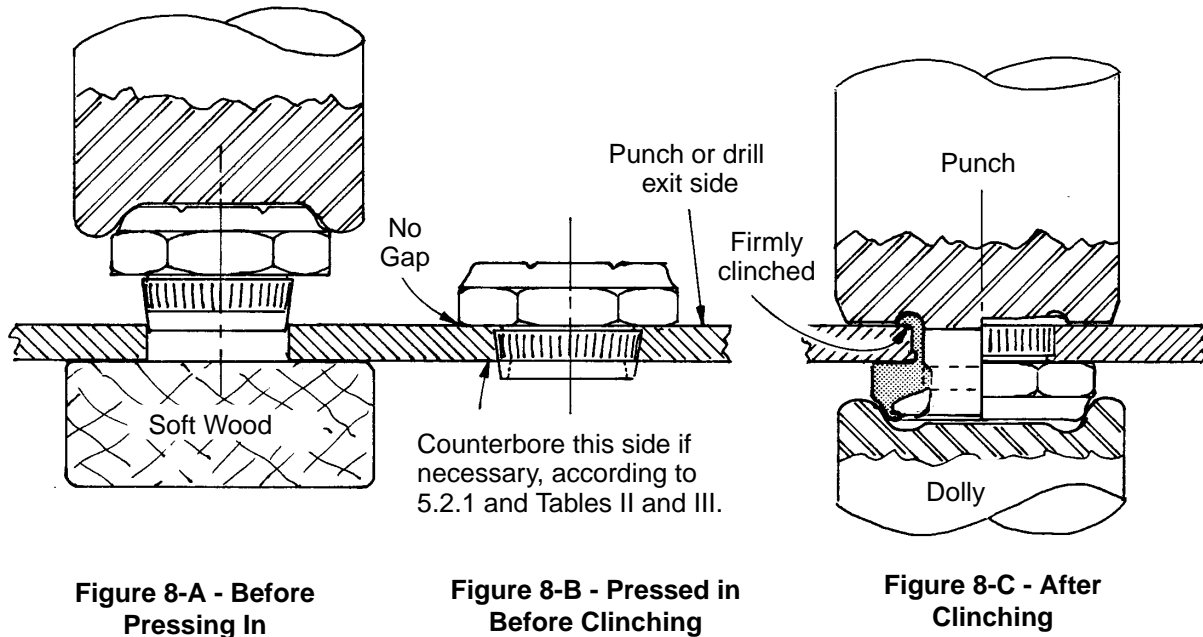

Figure 8 - Installation of ESNA Clinch Nuts
- Step 3. Place the dolly assembly on the crown of the nut. Ensure that the shank of the nut is aligned with the hole and the material is backed by a wooden block (see Figure 8-A).
- Step 4. Using light hammer blows on the dolly assembly, drive the shank into the hole until the base of the nut is fully seated against the material (see Figure 8-B). Do not hammer directly on the crown of the nut.
- Step 4. Place crown of the nut in the dolly groove. Ensuring that the nut is in line with the punch and dolly, operate the riveter to clinch the nut shank. The end part of the nut shank shall be clinched firmly against the material surface (see Figure 8-C).
- Step 4. Center the punch assembly on the shank and swage it over by hammering until the end part of the nut shank is clinched firmly against the material surface (see Figure 8-C).